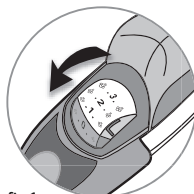

fig.1
- Unplug your iron before filling it and set the steam control lever to  $\odot$ .0. (fig.1).